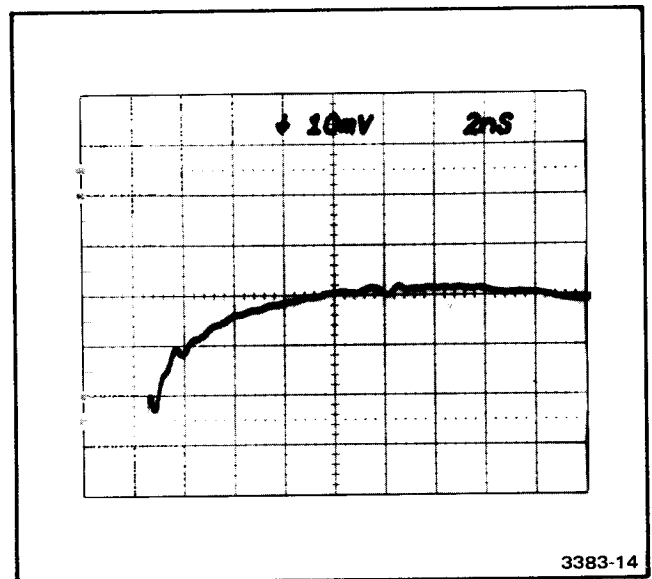

Fig. 4-4. Typical sampling oscilloscope response display.
- k. CHECK—that the aberrations are within 2% (1 div). Refer to Fig. 4-4.
s. Position the display to measure the waveform risetime. Refer to Fig. 4-4.